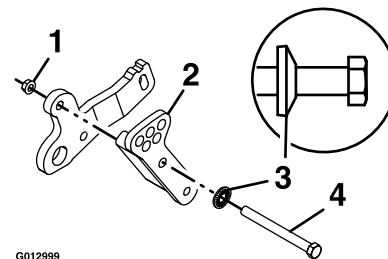

Figure 5
- B. Attach the actuator bracket to the rear deck lift arm with a screw (7/16 x 4-1/2 inches), spring disc washer (7/16 inch), and whiz-lock nut (7/16 inch) as shown in Figure 5. Hand tighten against the bracket.